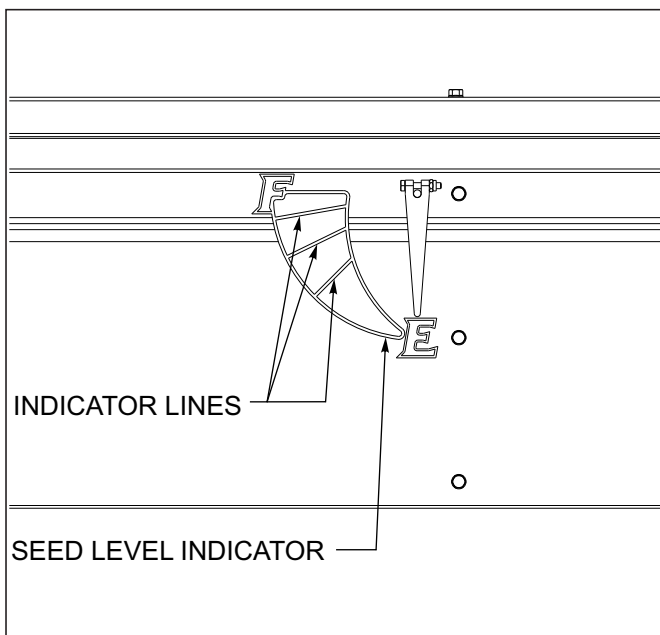

Figure 4-10: Seed Level Indicator
1. Each seed box has a visual seed level indicator to show the approximate volume of seed available in the seed box (See Figure 4-10.). A float inside the box sets upon the top level of seed to indicate the seed level. The float will raise when the seed box lid is open to allow for filling.